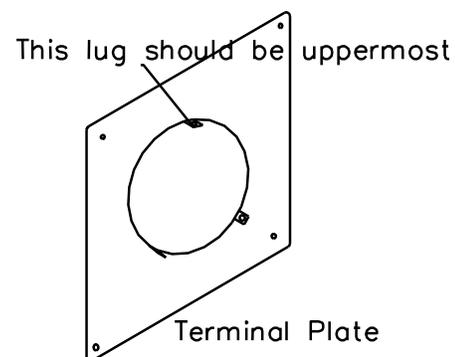
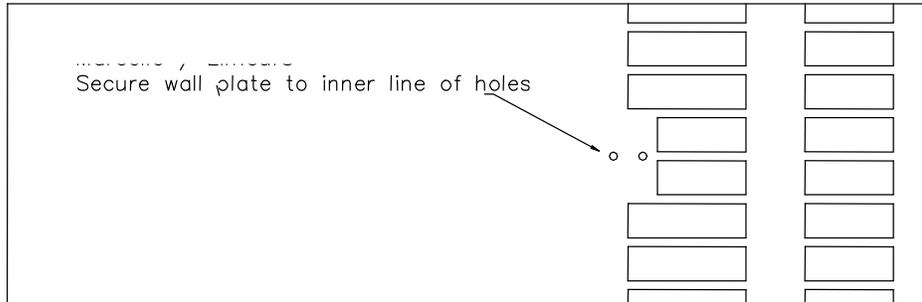

Figure 3
Figure 4
from the outside. Apply mastic to the rear face of the Terminal plate and fix to the wall using screws and wall plugs. Make sure the plate is fixed the correct way up. (See Figure 3) Slide the flue further into the wall until the tabs on the wall plate line up with the holes in the outer flue tube. Temporally fix the tube to the wall plate with the self tapping screws provided. Use the inner holes as shown in Figure 4.
- 3 Thread the outside wall plate onto the flue and push the flue into the wall from the outside. Apply mastic to the rear face of the wall plate and fix to the wall using screws and wall plugs. Make sure the plate is fixed the correct way up. (See Figure 3) Slide the flue further into the wall until the tabs on the wall plate line up with the holes in the outer flue tube. Temporarily fix the tube to the wall plate with the self tapping screws provided. Use the inner holes as shown in Figure 4.